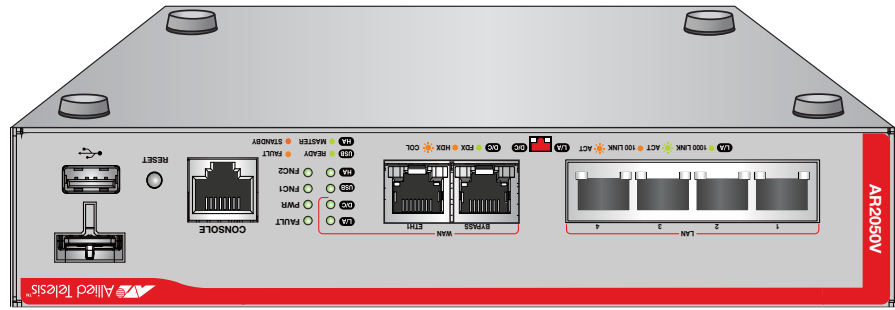

Figure 23. Turning the router upside down
1. Place the unit upside down on a level, secure surface, as shown in Figure 23.